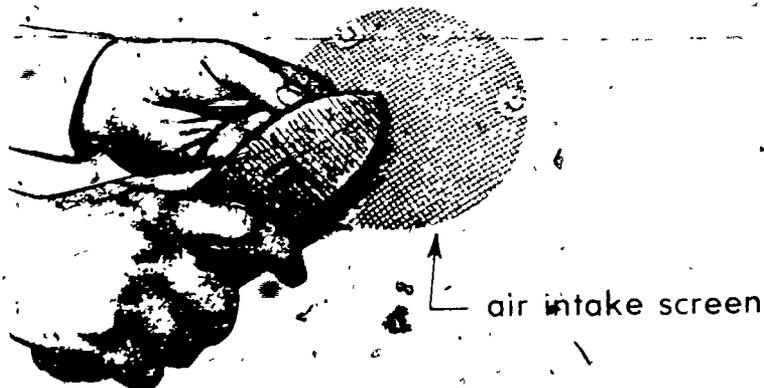

FIGURE 5
- H* Clean air intake screen with parts cleaning brush (Figure 5)